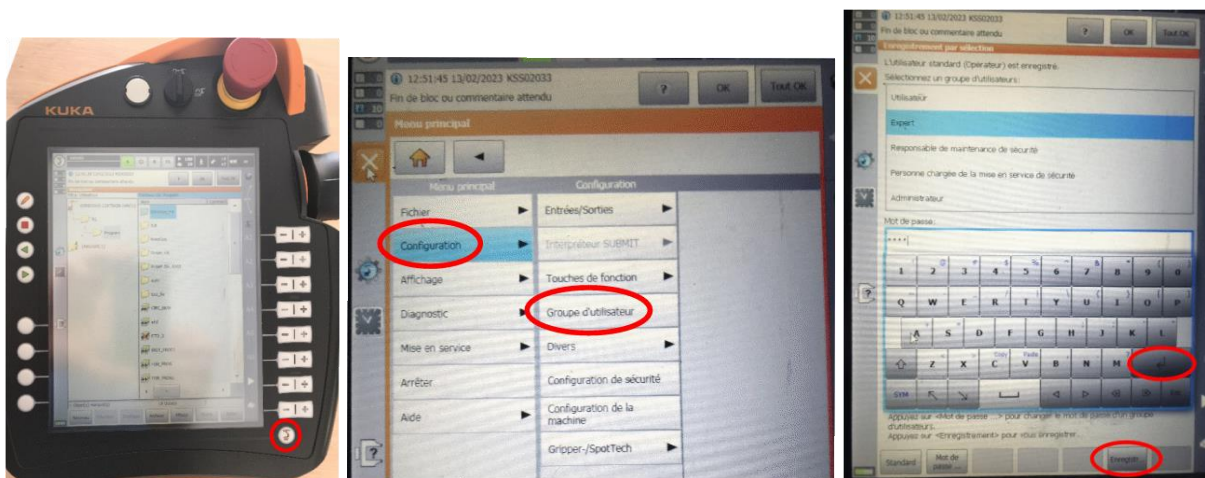

Figure 3: User group selection.
- If you are not already in the main menu, select the key  (see Figure 3 on the left);